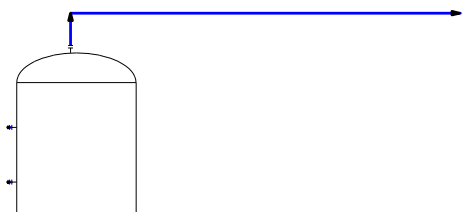

Figure 2-59 Line drawn from the top of the vessel
7. Move the cursor horizontally toward right and create a line, as shown in Figure 2-59. Assign the tag **12"-CS150-P-1006T** to the line.